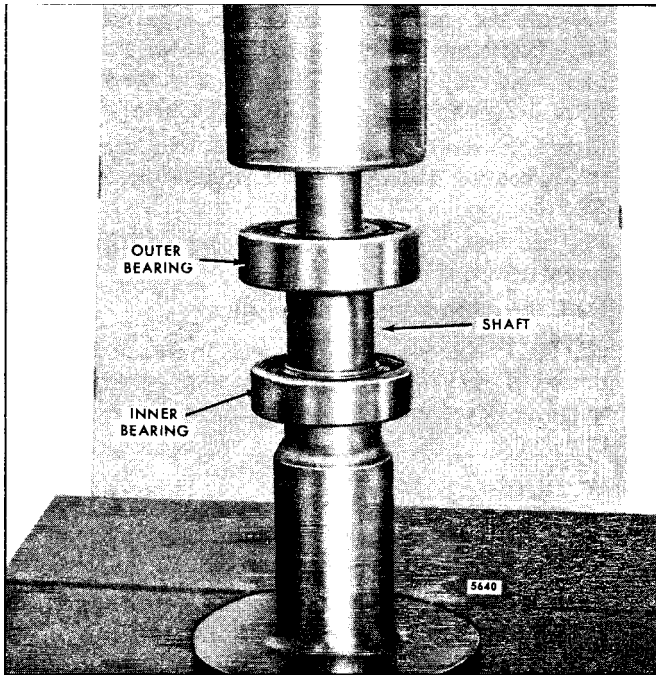

Fig. 7 - Pressing Bearing on Pump Shaft using Tool J 25257
1. Lubricate the bearing bores and shaft bearing surfaces. Use bearing and gear installer J 25257 and press the ball bearings against the shoulders on the shaft (Fig. 7).